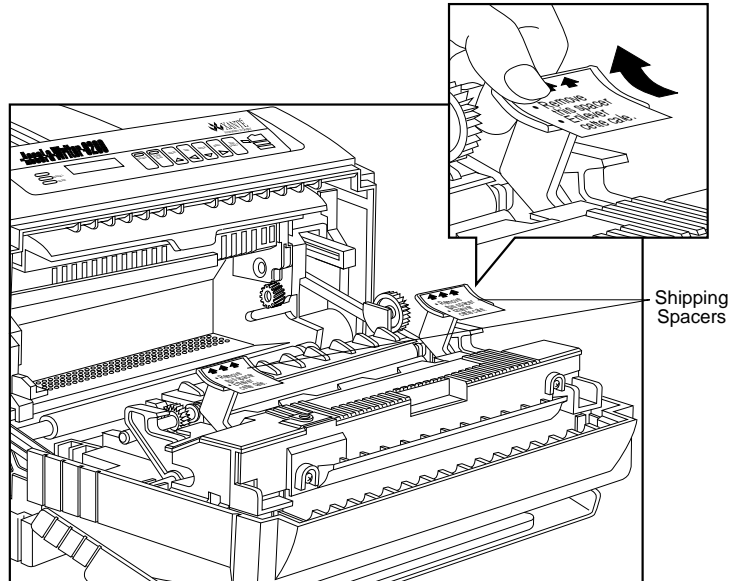

Fig. 2.6 Remove the Two Shipping Spacers
8. Remove the two orange shipping spacers by pulling them up and back in the direction of the arrows (fig. 2.6).